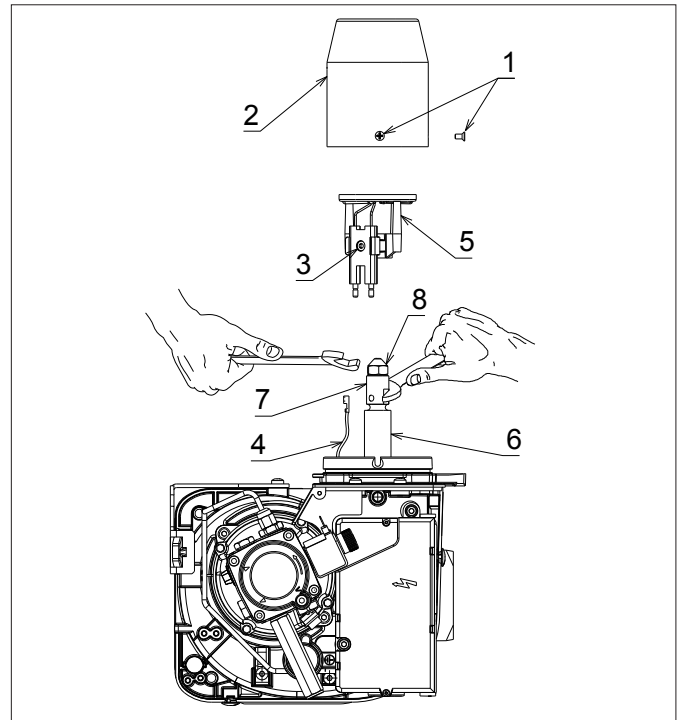

Figure 10-3: Burner head, diffuser and nozzle holder
1. Remove the burner head. Refer to Figure 10-3. Loosen the three fixing screws (1) and remove head (2) from burner.
3. If the nozzle needs to be replaced - remove the diffuser/electrode assembly. Refer to Figure 10-3.
- Using a 4 mm Allen key, loosen the diffuser fixing screw (3) on the electrode assembly.
- Lift diffuser/electrode assembly (5) up and off the nozzle holder.
- Disconnect both ignition leads (4) from the electrodes.
4. Use a 16 mm spanner to remove/re-fit the nozzle (8), whilst holding the nozzle holder (6) using a 19 mm spanner.
5. Re-fit the diffuser/electrode assembly. Refer to Figure 10-3.
- Reconnect ignition leads (4) to electrodes.
- Re-fit the diffuser/electrode assembly (5) onto the nozzle holder lining up the fixing screw with the recess in the nozzle holder.
- Tighten the fixing screw (3) to secure the diffuser/electrode assembly in place on the nozzle holder.
7. Re-fit the burner head. Refer to Figure 10-3.
- Locate the head fixing screws (1) in the countersunk slots in the burner collar.
- Tighten the three screws (1) to secure the head (2) in position on the burner.